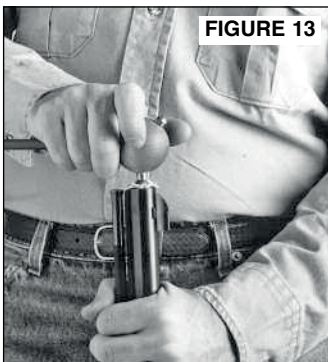

FIGURE 13
• Place the stubby end of the bullet starter on the top of the ball, as shown in FIGURE 13, and apply pressure until the ball starts into the barrel. A tightly patched ball will require a good deal of pressure and it starts suddenly. It will usually “snap” smartly into the barrel flush with the muzzle.
• Start the ball with the stubby end of the Bullet Starter (FIGURE 13). A tight fitting combination will load with some difficulty. Never attempt to start the ball with the ramrod. Used improperly the ramrod could break and possibly injure the person loading the firearm.